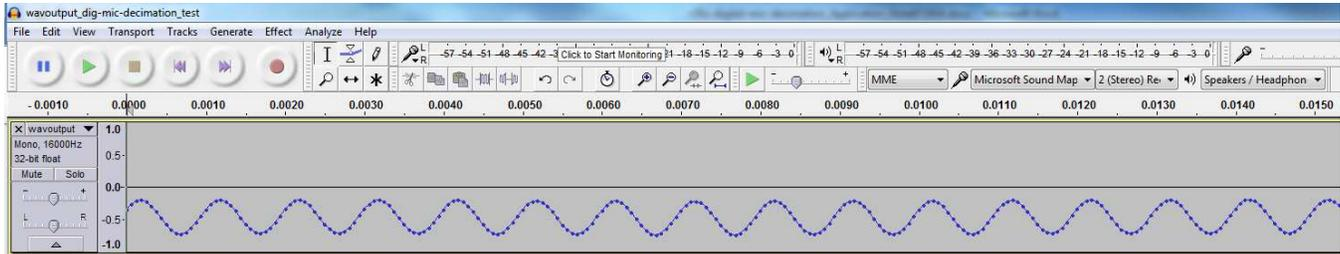

Figure 23. 1KHz Sine Wave Output Captured From the PDM Microphone and Decimated on the C5515 DSP
19. Open `wavoutput_dig-mic-decimation_test.wav` in Audacity or any other audio software for analysis. As observed in Figure 23, an output with a 1KHz Sine wave would be observed.